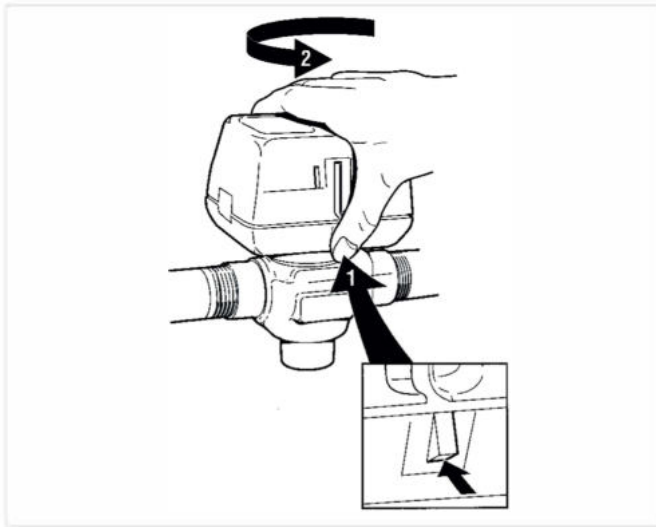

Fig. 6 Latch mechanism
- 3) The actuator head is automatically latched to valve (see figure 6). To remove, lift up on the latch mechanism located directly below the red manual open lever. Press the actuator head down towards the body with moderate hand force and turn counter-clockwise by 1/8 turn (45 degrees) simultaneously. Lift the actuator head off the valve body.
- 4) Install the new actuator head by reversing process in (3).